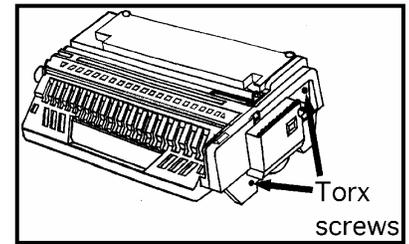

Figure 1
1. Remove the right side end cap (two tamperproof torx style screws -Fig. 1).